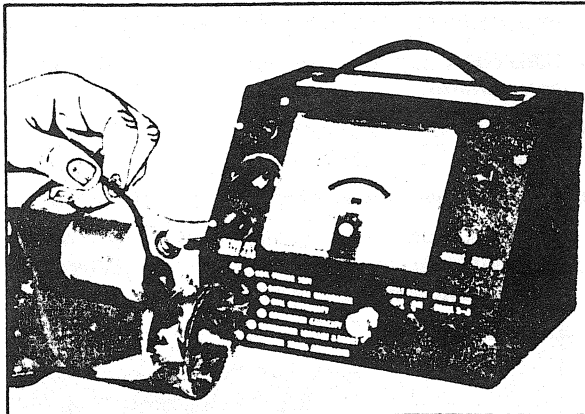

FIGURE 12
- Attach small **black** test lead to the **grounded** brush and small **red** test lead to frame where the brush is fastened (field frame). (Fig. 12).